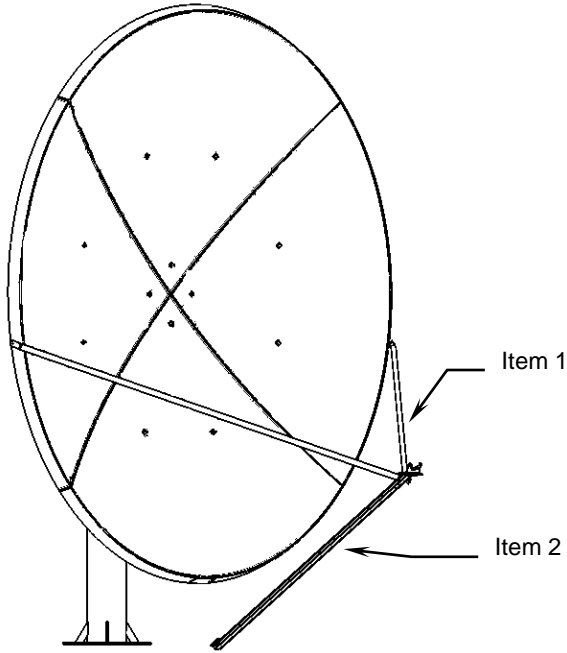
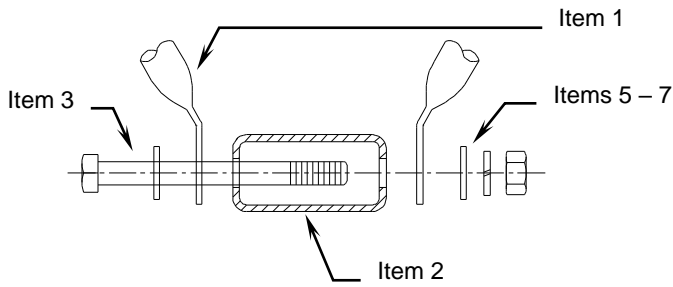

Figure 25: Feed Support Feed Rod Assembly
Figure 26: Feed Support Feed Rod Detail
2. Position the feed support (item 2) in front of the reflector as shown and attach to the top ends of the feed rods with 1/2" hardware (items 3, 5, 6, 7). See Figure 25, Feed Support Feed Rod Assembly. See Figure 26, Feed Support Feed Rod Detail